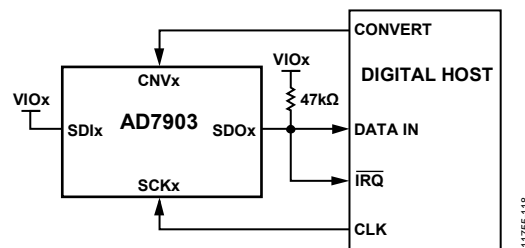
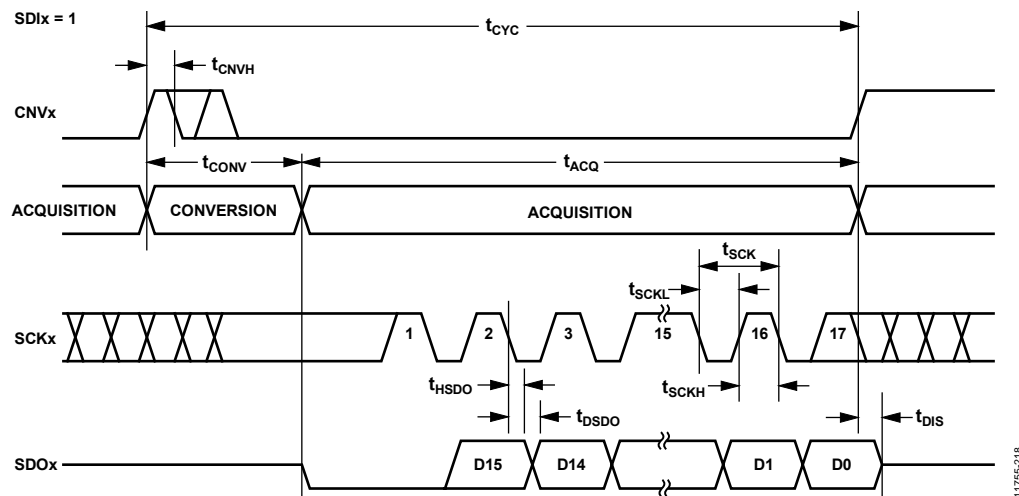
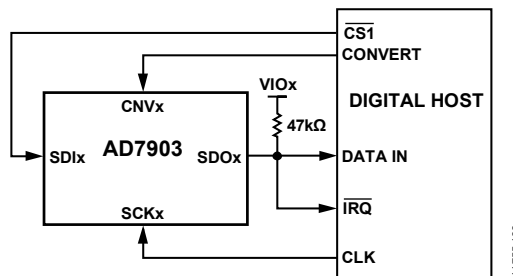
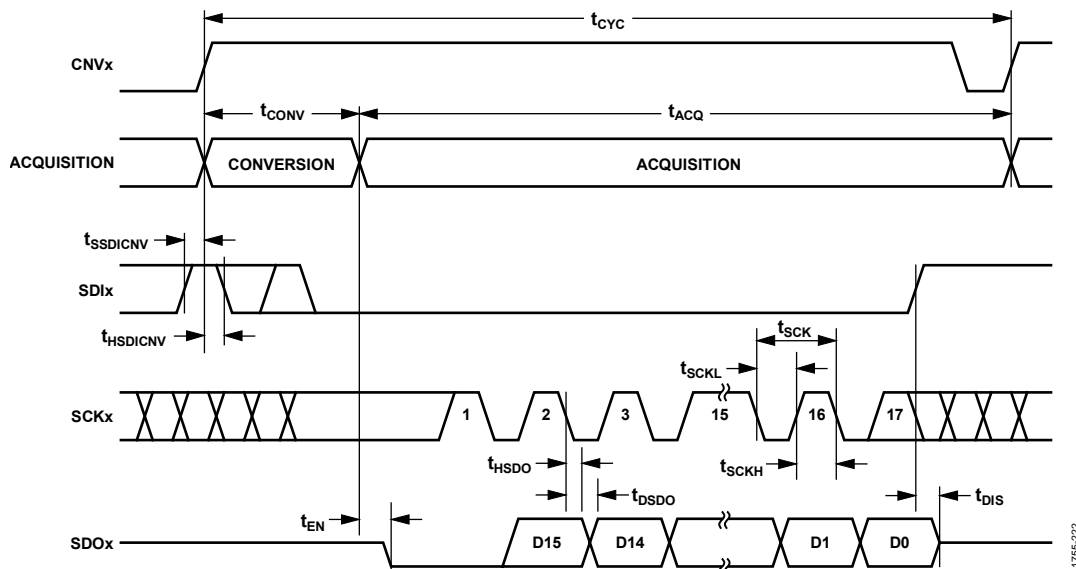

Figure 41. \overline{CS} Mode, 3-Wire Interface with Busy Indicator Connection Diagram ($SDIx$ High)
Figure 42. \overline{CS} Mode, 3-Wire Interface with Busy Indicator Serial Interface Timing ($SDIx$ High)
Figure 45. $\overline{\text{CS}}$ Mode, 4-Wire Interface with Busy Indicator Connection Diagram
Figure 46. $\overline{\text{CS}}$ Mode, 4-Wire Interface with Busy Indicator Serial Interface Timing
- In $\overline{\text{CS}}$ mode if CNVx or SDIx is low when the ADC conversion ends (see Figure 42 and Figure 46).
The connection diagram is shown in Figure 41, and the corresponding timing is shown in Figure 42.
The connection diagram is shown in Figure 45, and the corresponding timing is given in Figure 46.